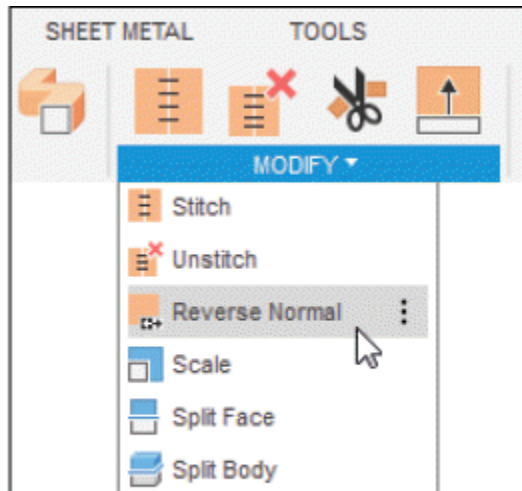
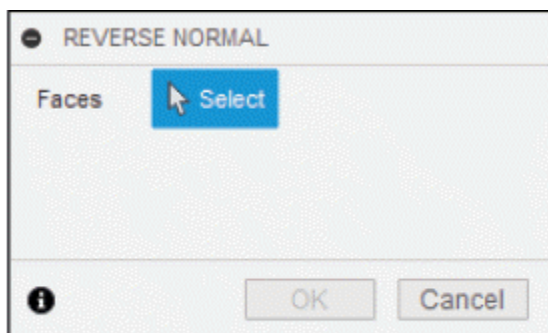

Figure-31. Reverse Normal tool
Figure-32. REVERSE NORMAL dialog box
- Click on the **Reverse Normal** tool of **Modify** drop-down from **Toolbar**; refer to Figure-31. The **REVERSE NORMAL** dialog box will be displayed; refer to Figure-32.